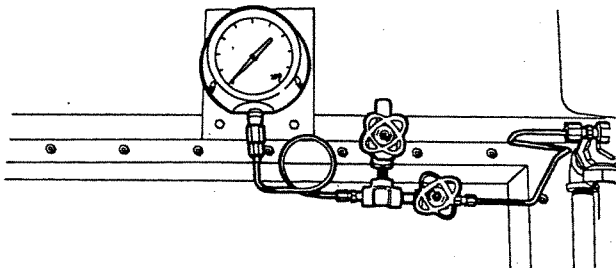

Figure 4-11. Pressure Gage — Pilothouse
6. Check pressure gage in pilohouse for reading of 90 to 120 PSI (Figure 4-11).